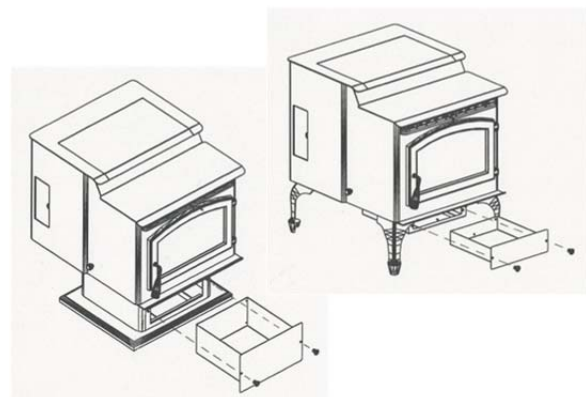

FIGURE 26
- Periodically remove and empty ash bin (see Figure 26) by unscrewing the two knobs on the front of the pedestal below the ash lip. Dispose of ashes properly. (See “**ASH REMOVAL**” above)
- Interior Chambers** – Four ash doors in the firebox in the SP23 can be removed for periodic cleaning (refer to figure 26). These doors allow access to the chamber surrounding the firebox.